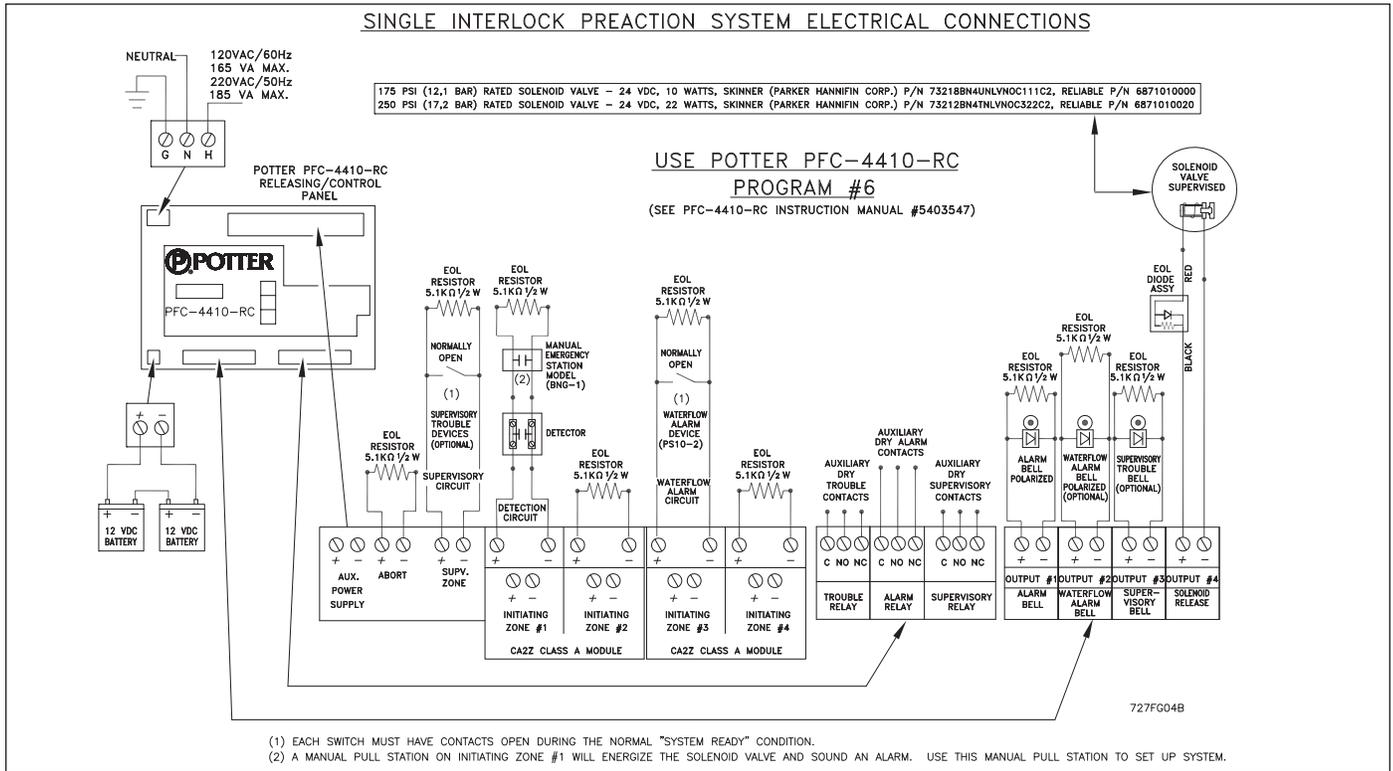

Figure 1
All releasing, alarm and detection devices in the Single Interlock System are supervised by the Potter PFC-4410-RC Releasing/Control Panel. Typical connection of these devices is shown in Fig. 1.
2. Make all electrical connections in accordance with Fig. 1.